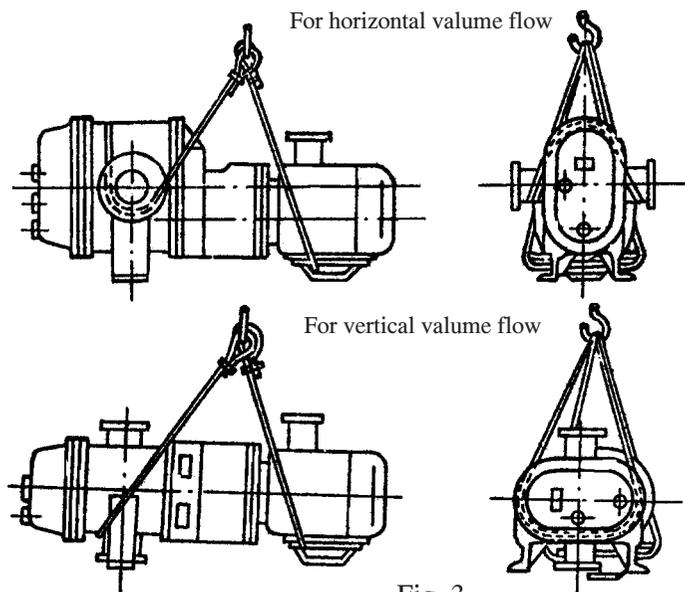

Fig. 3
4.3. While performing loading-unloading works or assembling the air blower, it is mandatory to use lifting equipment which are in good working order and having minimum lifting capacity of 0.5 ton. The air blower may be slung only following the scheme shown in fig. 3.